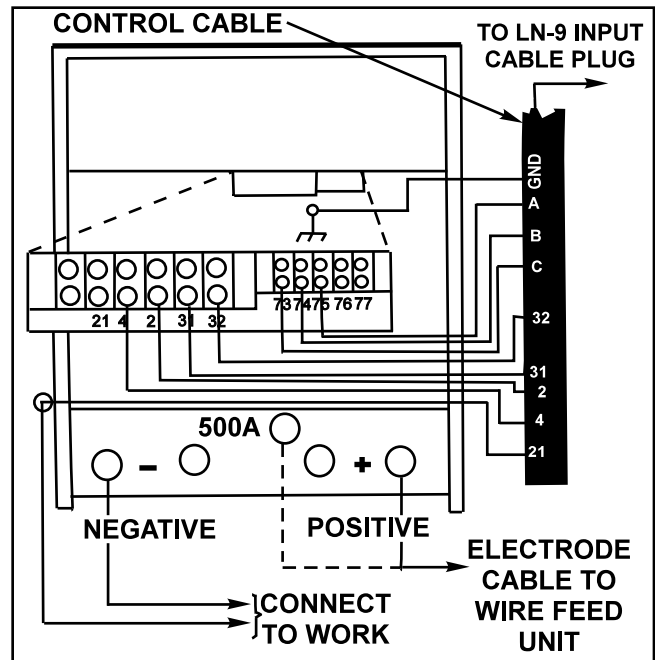

FIGURE C.4 - LN-9 Wire Feeder Connection to the IDEALARC DC-1000
3. Connect the wire feeder control cable leads to the DC-1000 terminal strip. See Figure C.4.
6. Connect lead #75(A) to #75 on the terminal strip.
7. Connect lead #76(B) to #74 on the terminal strip.
8. Connect lead #77(C) to #73 on the terminal strip.
9. Connect the welding cables as shown in Figure C.4.
NOTE: The connection diagram shown in figure C-4 shows electrode connected for positive polarity. To change polarity: